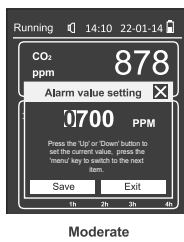

fig.5
**Operation:** Press ▲ or ▼ button to adjust the value and press ≡ to switch digits. Then press **Save** and  $\frac{OK}{\bigcirc}$  to save the setting and exit the interface, or press **Exit** and  $\frac{OK}{\bigcirc}$  to exit without saving the setting (fig.5).